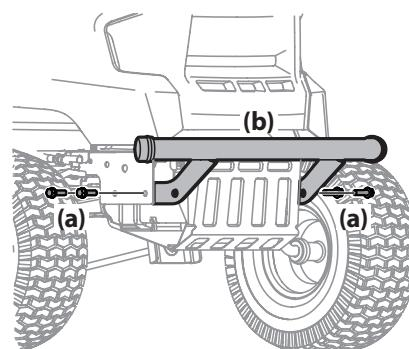

Figure 2-10
- Position the bumper brackets to the *inside* of the tractor's frame and secure it in place with the four hex flange screws (a). See Figure 2-10.